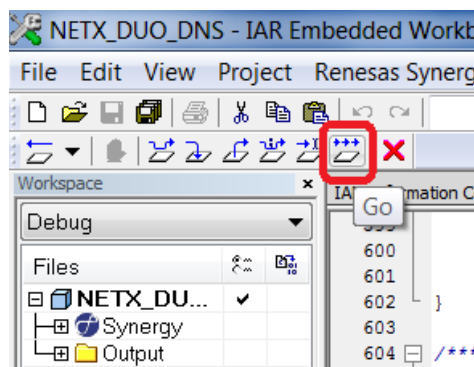

Figure 1.16 Run button
4. Press **F5** or the **Go** button, as shown in Figure 1.16, to start the application.